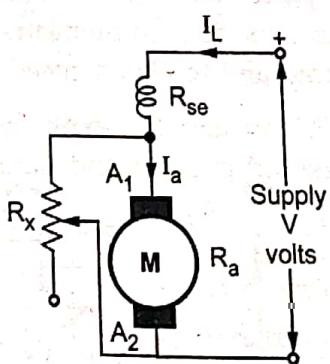

Fig. Q.52.3 Armature divertor
- An armature of the motor is shunted with an external variable resistance ( $R_x$ ) as shown in the Fig. Q.52.3. This resistance  $R_x$  is called **armature divertor**.